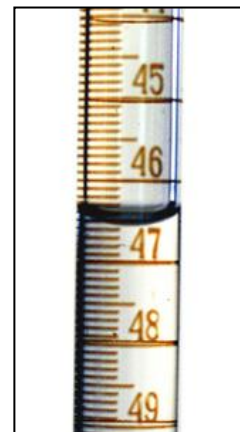

Figure 9 – ***final volume***
- Figure 9 shows the ***final volume*** of the solution after a particular lab experiment has been completed. What is the ***final volume*** that you would record in your data table.